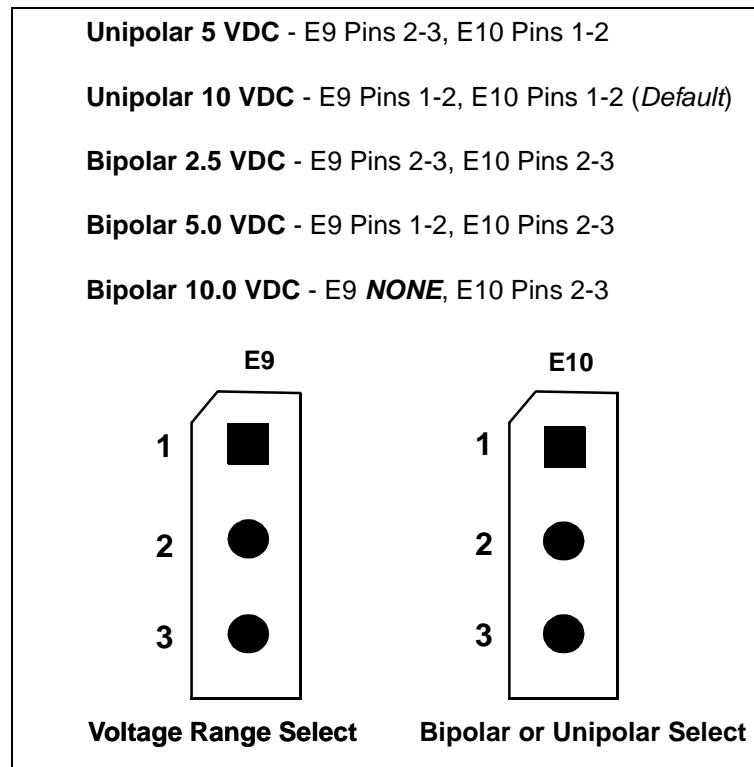

Figure 2-1 Configuring Jumpers for Output Types and Voltage Ranges
The output voltage range is jumper selectable (jumper E9). The maximum full-scale range is 20 V. To change the full-scale range, configure jumper E9 as indicated in Figure 2-1 above.
Bipolar or Unipolar operation of the analog voltage outputs is selected using jumper E10, as shown in Figure 2-1 above.
1. Configure jumper E9 (pins 1 and 2) for the 10 V span, and jumper E10 (pins 1 and 2) for unipolar as shown in Figure 2-1 on page 26.
1. Configure jumper E9 (pins 2 and 3) for a 5 V span, and jumper E10 (pins 1 and 2) for the unipolar mode as described in Figure 2-1 on page 26.
1. Configure jumper E9 (pins 2 and 3) for a 5 V span, and jumper E10 (pins 2 and 3) for bipolar as shown in Figure 2-1 on page 26.